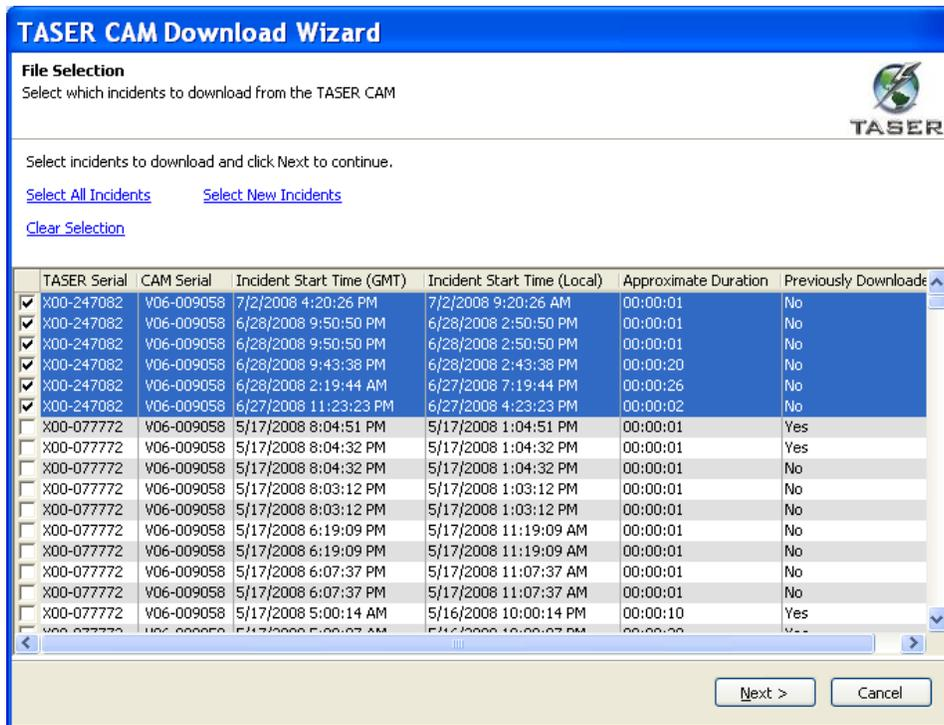

Figure 14
- Select which incidents/video files to download from the TASER CAM recorder (Figure 14).